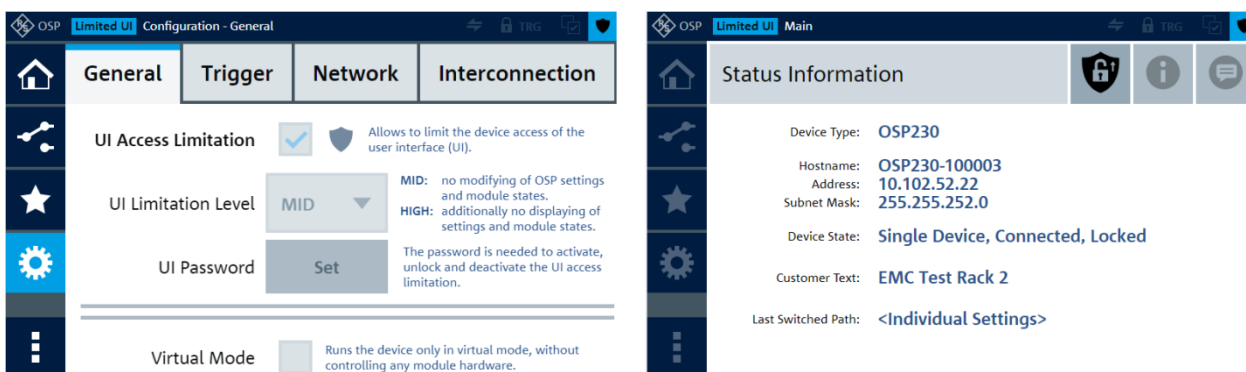

Figure 6-51: Activating UI Access Limitation shows a blue shield icon in the top-right corner
- The blue shield icon  in the top-right corner (Figure 6-51) indicates an **activated** "UI Access Limitation". The text "Limited UI" also appears in the top-left side.